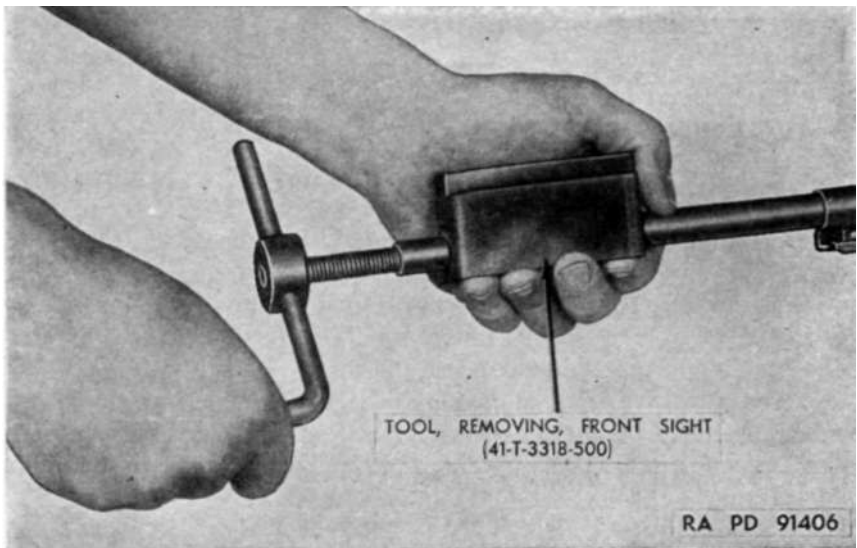

Figure 34. Removing front sight.
(1) Break sight pin loose, using a tapered punch, then drive pin out, using a  $\frac{3}{32}$ -inch drift.
(2) Position front sight removing tool (41-T-3318-500) over front sight, hooking it on the rear of the sight. (See fig. 34.)
(3) Enter pilot of screw into end of barrel and remove front sight by turning handle of tool.